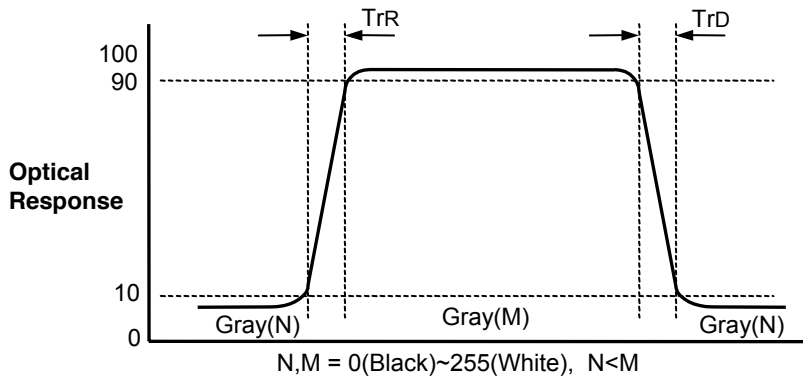

FIG. 3 Response Time
4. Response time is defined as the required time for the transition from G(N) to G(M) (Rise Time, Tr_R) and from G(M) to G(N) (Decay Time, Tr_D). For additional information see the FIG. 3. (N<M)